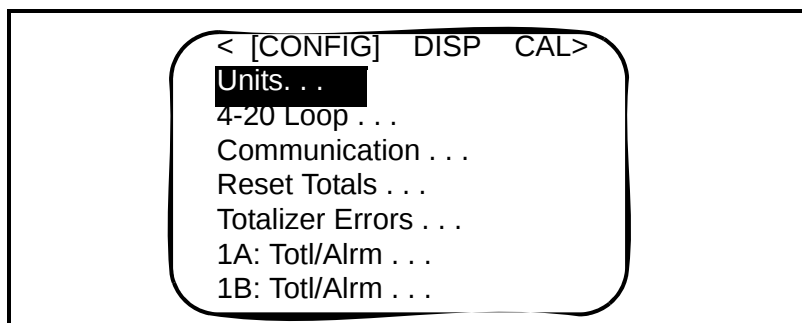

Figure 4-1: The CONFIG Menu
2. Press the [►] key until CONFIG is bracketed and press [ENT]. The screen appears similar to Figure 4-1 below.
2. Press the [►] key until CONFIG is bracketed and press [ENT]. The screen appears similar to Figure 4-1 on page 4-7.